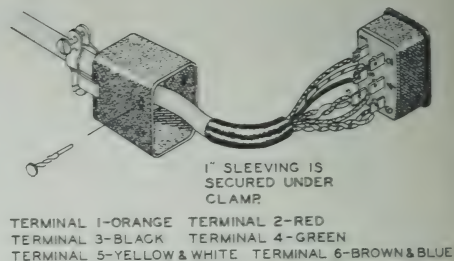

Figure 5
- (X) Trim the outer insulating cover of the 8-conductor cable back 1". Strip the insulation from each colored lead 1/4".
- (X) Group the cable leads together and slip the 1" length of 1/4" insulating tubing over them. The plug cover is then slipped over the leads.
- (X) Twist the strands tightly together in the same direction they already are. Insert the red lead through terminal 2 of the power plug. Bend half of the bared lead back on itself and pinch it together over the terminal (S-1).
- (X) In the same manner, connect the green lead to terminal 4 (S-1).
- (X) Twist the brown and blue leads together to form one common lead and connect to terminal 6 (S-1).
- (X) Twist the yellow and white wires together to form one common lead and connect to terminal 5 (S-1).
- (X) Connect the black lead to terminal 3 (S-1).
- (X) Connect the orange lead to terminal 1 (S-1). Now re-assemble the plug as shown in Figure 5.